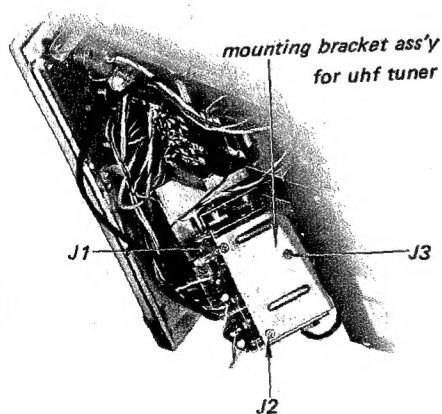

Fig. 2-12.
4. Remove the three screws labeled J1 ~ J3 in Fig. 2-12.